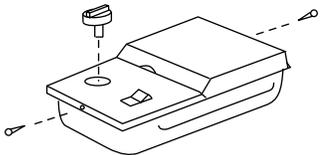

Figure 22
Make sure side burner is OFF. Remove valve control knob and screws. Remove porcelain top. Figure 22.
- Reinstall the side burner cover. Figure 22.